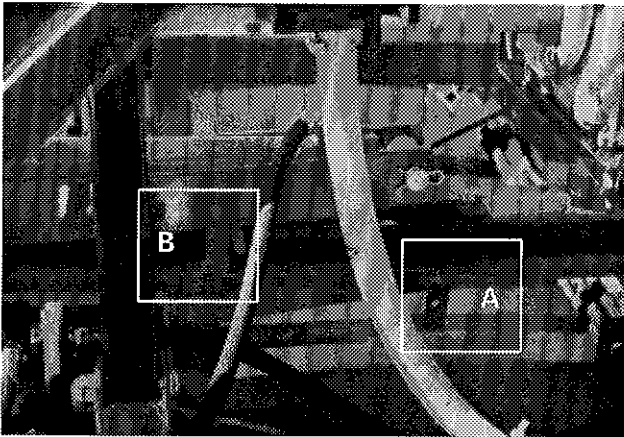

Figure 15
- 10) Check and if necessary, adjust the length of travel of the pusher by changing the position of lug "A" figure 15. To prevent bottoming of the piston, always keep $\frac{1}{2}$ " to $\frac{3}{4}$ " of travel at either end of the cylinders. The retracted position is adjusted in the same manner with lug "B" figure 15.